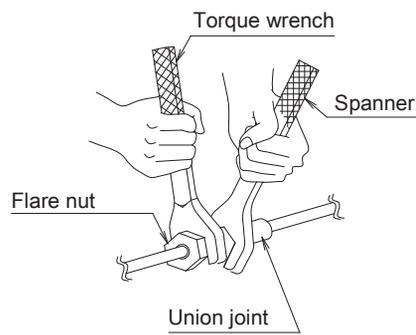

Fig. 13
- When connecting the pipings to the air conditioner, make sure to use a spanner and a torque wrench as shown in Fig. 13.